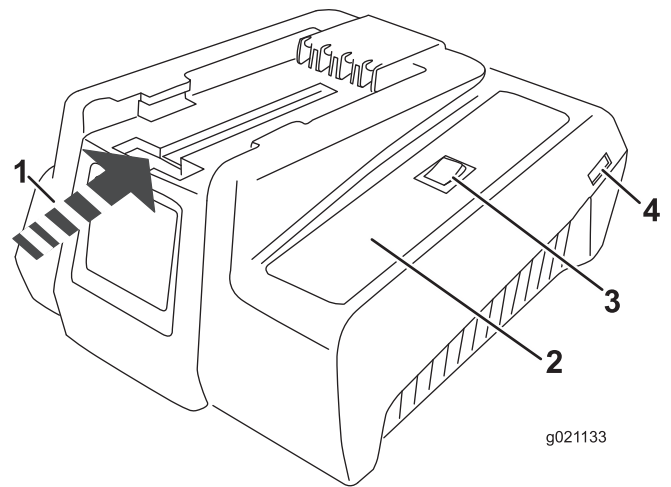

Figure 5
1. If the power cord is not plugged in to the charger, plug it into the charger (Figure 5), then plug the power cord into a power socket.
2. Turn the battery upside down and line up the battery terminal with the slot in the charger (Figure 5 and Figure 6).